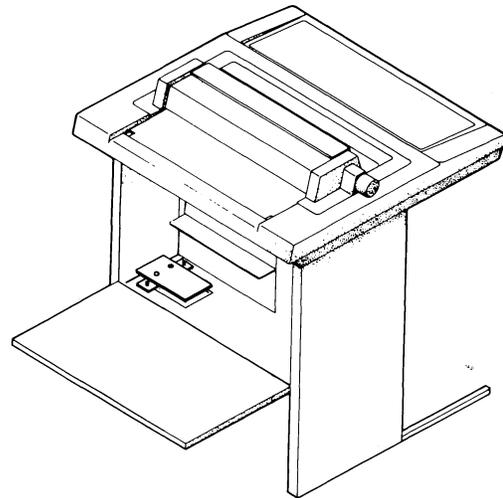

Fig. 29-EIA Protection Module Removal and Installation
- (b) Using a 1/4 inch nut driver, remove the two hex-head screws that secure the module to the cabinet (Figure 29).
- (c) Replace the two hex-head screws that secure the EIA protection module to the cabinet (Figure 29).